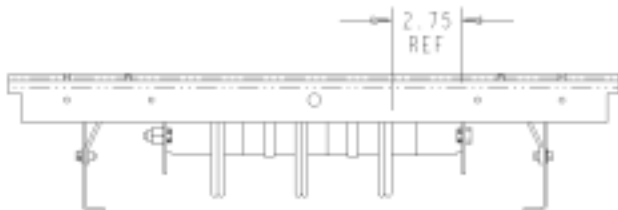

Figure 3. Locating the proper side of the interior to mount the straps.
3. Locate the proper side of the interior to mount the straps. Locate the side of the panel interior bus at which the distance from the vertical bus face to the inner face of the bus support rail is 2.75 inches, as shown in Figure 3. The circuit breaker straps will be mounted on this side of the vertical bus. The assembly views show the 2.75-inch distance on the right. When the 2.75-inch distance is on the left, the proper view is upside down.